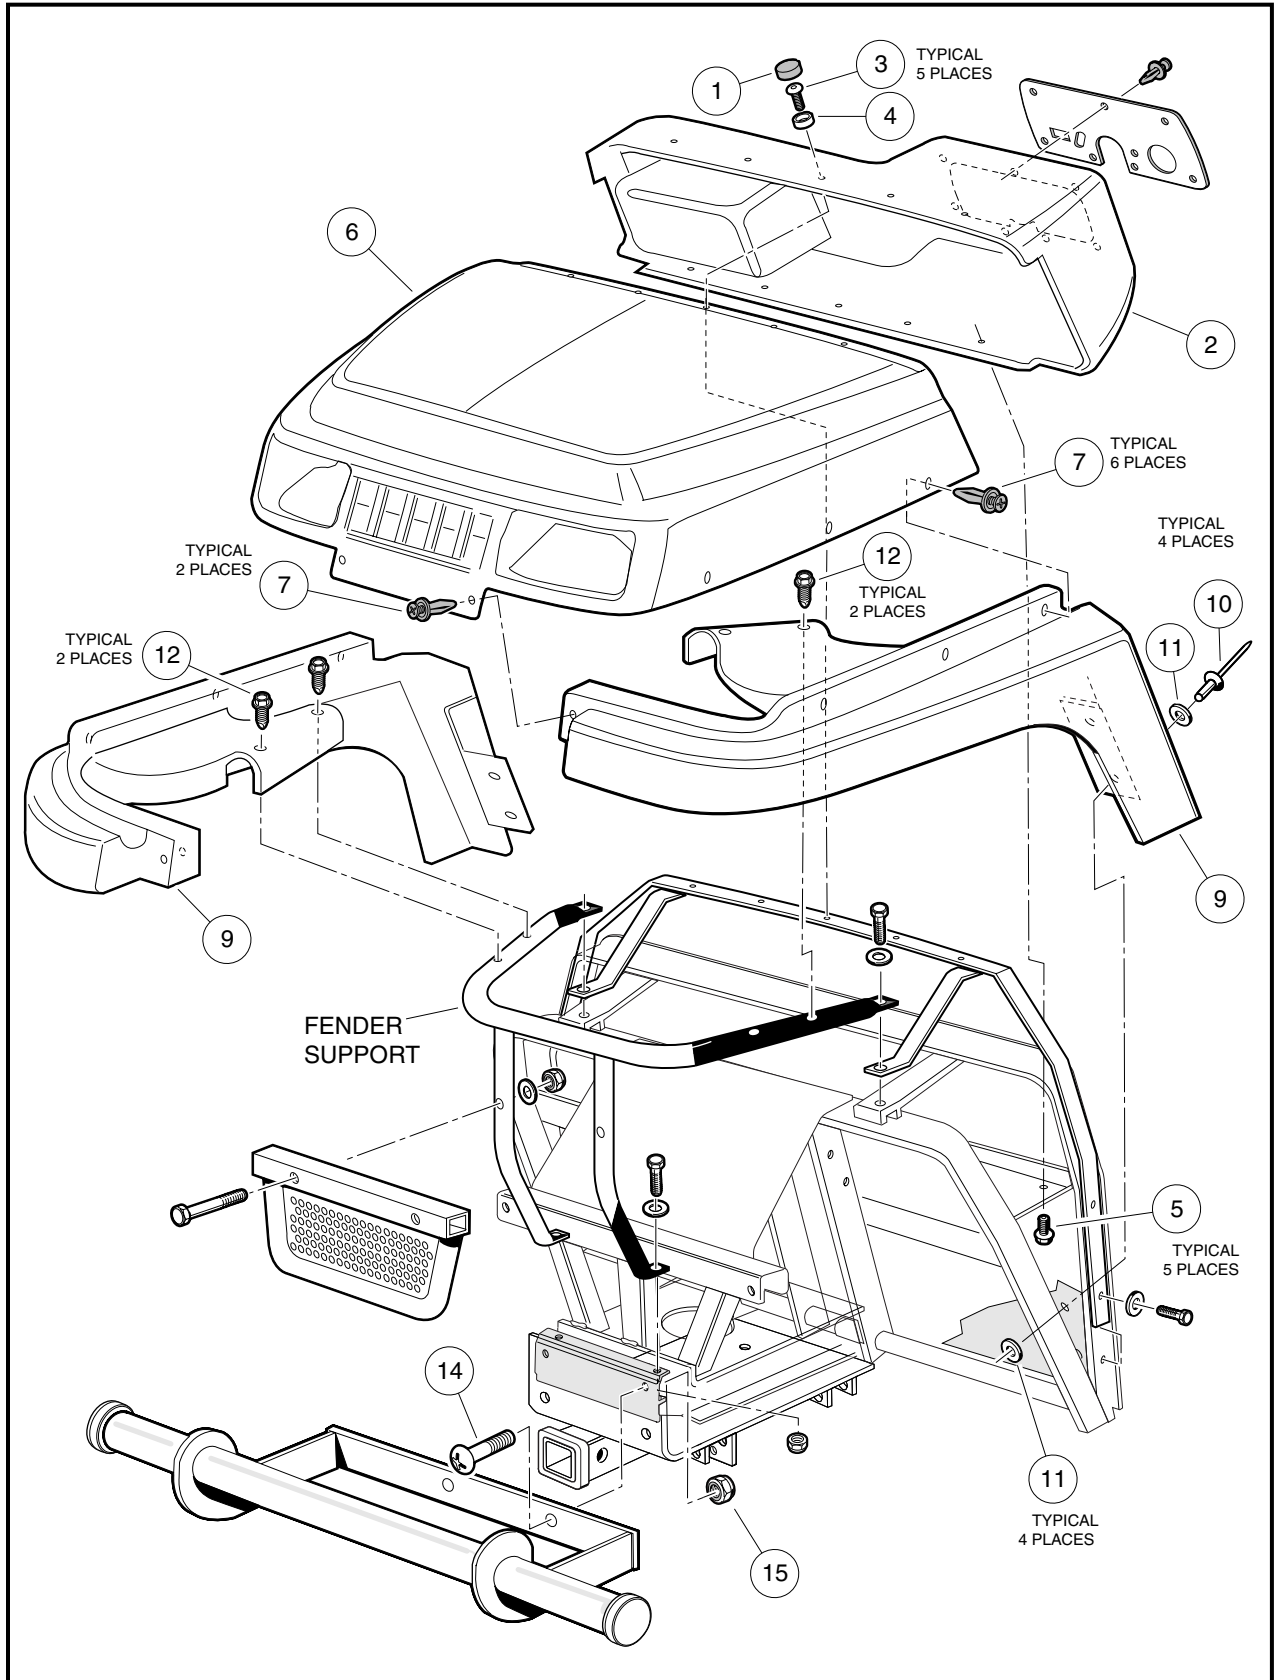

Figure 4-2 Front Body Assembly
1. Remove the two truss-head screws (14) and nuts (15) that secure the tube bumper to the vehicle frame (**Figure 4-2, Page 4-5**).
1. Installation is the reverse of removal. Tighten the two nuts (15) to 15 ft-lb (20.3 N·m) (**Figure 4-2, Page 4-5**).
5. Remove five caps (1) from top of dashboard (2) (**Figure 4-2, Page 4-5**).
6. Remove screws (3) and special plastic washers (4) from top of dashboard (2) using a Torx #T-30 driver.
7. Remove five screws (5) from underside of dashboard and pull dashboard away from front body (6).
2. Tighten screws (5) to 11 in-lb (1.2 N·m) (**Figure 4-2, Page 4-5**).
3. Tighten Torx-head screws (3) with plastic washers (4) to 45 in-lb (5.1 N·m).
4. Install five caps (1).
1. Remove five caps (1) from top of dashboard (2) (**Figure 4-2, Page 4-5**).
2. Use a Torx #T-30 driver to remove the Torx-head screws (3) and washers (4) from top of front body (6).
3. Use a 5/16 nut driver to remove five screws (5) from underside of dashboard (2) and gently slide dashboard away from front body (6).
4. Use a Phillips head screwdriver to remove the six Tuflok fasteners (7) from sides and two (7) from front of front body (6).
6. Lift the back edge of the body up and pull forward to remove from vehicle (**Figure 4-2, Page 4-5**).
1. Remove front body (6) (**Figure 4-2, Page 4-5**). See **Front Body Removal on page 4-4**.
2. Pull back floor mat to access rivets securing front fender (9) to frame. Drill out two 3/16 x 5/8 pop rivets (10) and remove two washers (11).
3. Use a 3/8 hex-head socket to remove two screws (12) from fender frame support and remove fender.
1. Reverse removal the fender removal process (**Figure 4-2, Page 4-5**).
2. Tighten two screws (12) to 50 in-lb (5.7 N·m).
3. Pop rivet fender to frame using two 3/16 x 5/8 pop rivets (10) and two 3/16 rivet washers (11).
1. Reverse the front body (6) removal process (**Figure 4-2, Page 4-5**).
2. Secure front body (6) to dashboard (2) with screws (3) and plastic washers (4) and tighten to 45 in-lb (5.1 N·m).
3. Install five caps (1).
4. Secure front body (6) to fenders (9) with fasteners (7) and push the heads in until they snap into place.